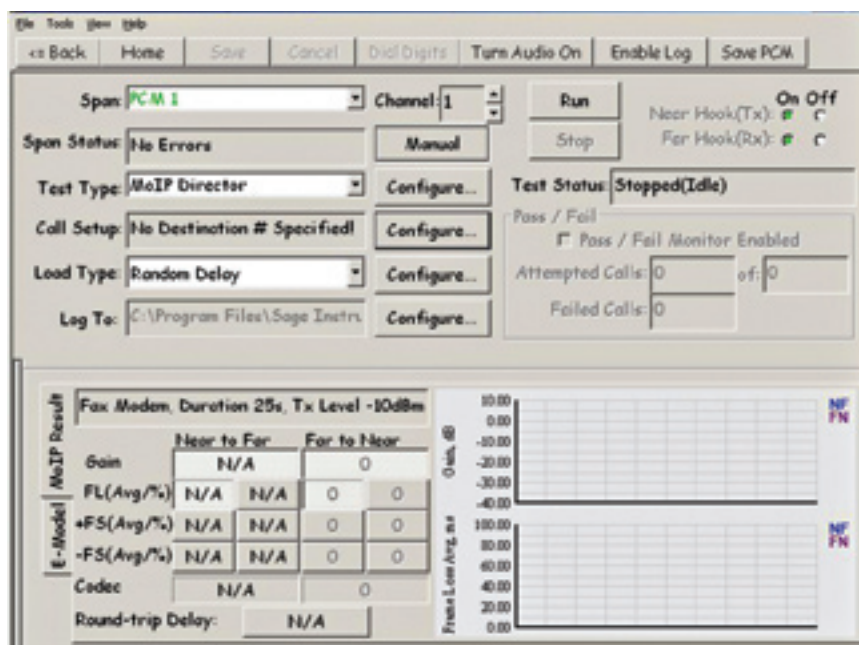

Figure 95
The SAGE MolP Director test utilizes five (5) screens for configuration of the test parameters (see figures 95 through 99).
Figure 95 shows the main test screen with the "MolP Director" test selected and saved. When clicked the four (4) "Configure" buttons down the center of the screen display the set-up windows at right.